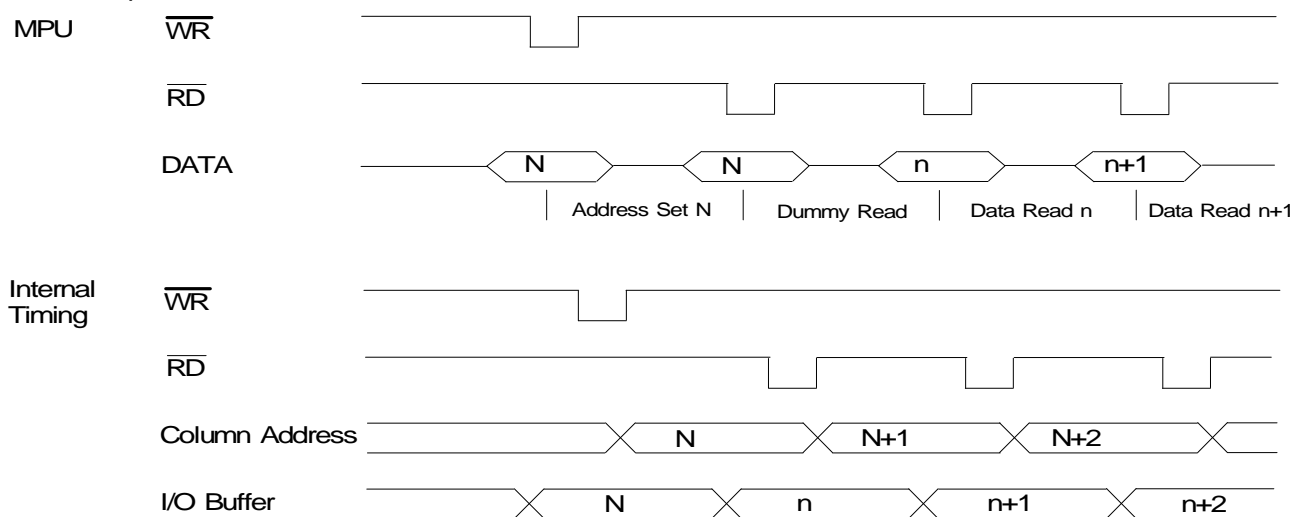

Fig.6
The NJU6677 is operating as one of pipe-line processor by the bus-holder connecting to the internal data bus to adjust the operation frequency between MPU and the Display Data RAM or Internal Register. For example, when the MPU reads out the data from the Display Data RAM, the read out data in the data read cycle (dummy read) is held in the bus-holder, then it is read out from the bus-holder to the system bus at the next data read cycle. When the MPU writes the data into the Display Data RAM, the data is held in the bus-holder, then it is written into the Display Data RAM by the next data write cycle. Therefore high speed data transmission between MPU and NJU6677 is available because of it is not limited by the  $t_{ACC}$  and  $t_{DS}$  as display data RAM access time and is limited by the system cycle time (R) or (W). If the cycle time is not be kept in the MPU operation, NOP should be inserted to the system instead of the waiting operation. The read out operation does not read out the data in the pointed address just after the address set operation. And second read out operation can read out the data correctly from the pointed address. Therefore, one dummy read operation is required after address setting or write cycle as shown in FIG. 6.